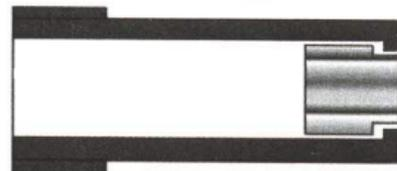

FIG. 1
**ATTENTION:** Use only the included Spring Plug. Insert Only ONE Ring in the Spring Plug according to FIG. 1 direction before the installation of the DPM Recoil Rod.
1. Place One External Spring on the Recoil Rod. **FIG. 1**